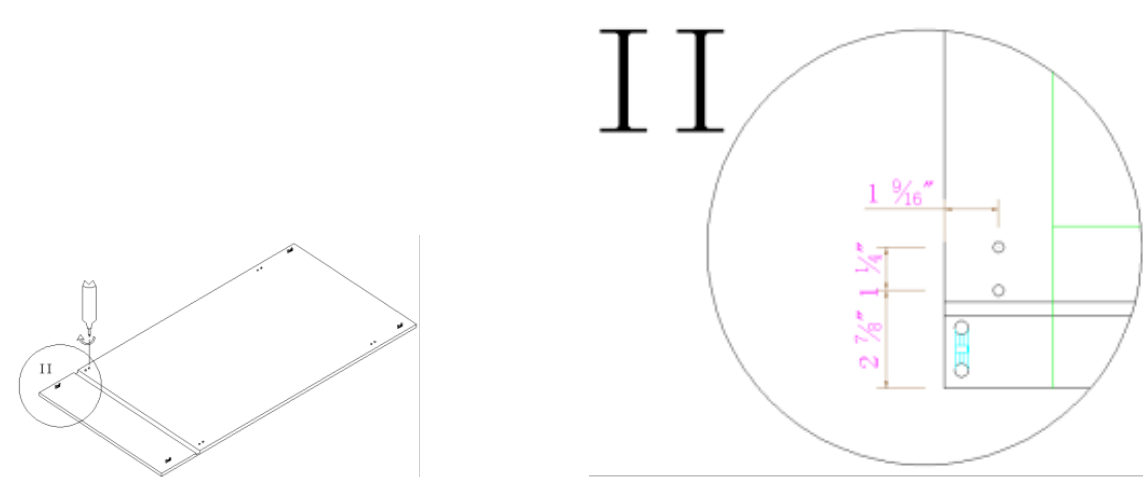

Figure 1
1. Drill the holes of 9mm for the holder of guide on the back panel , the detail distance as below (Figure 1).